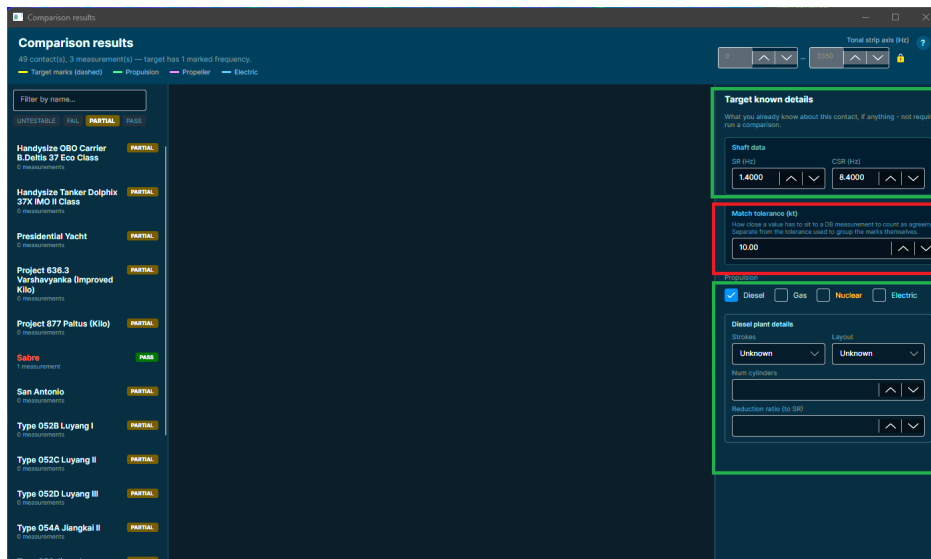

Figure 11: Partial Contacts
3. In the “**Comparison results**” panel enter any additional information you may have in the “**Target known details**” fields (Figure 11 Page 20 Green Boxes).
4. If no matches reach the partial or pass criteria adjust the tolerance setting to allow for variation in accuracy in placing markers. Too broad a tolerance will cause more misidentifications which will have to be discounted by observation (Figure 11 Page 20 Red Box)